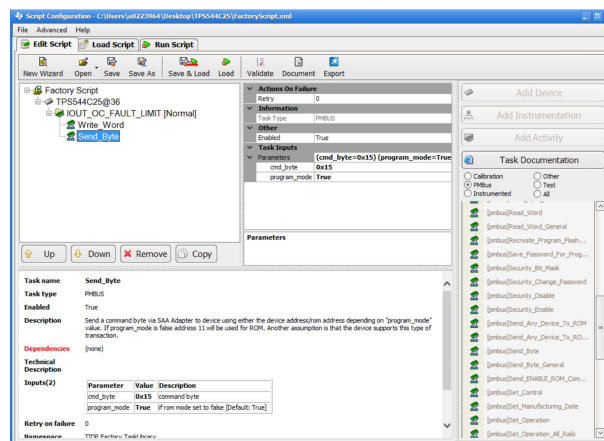

Figure 33. Adding A Task to Store All Data to NVM
- To add a task to store all data to a non-volatile User Store memory, click Send Byte and write cmd\_byte=0x15 (shown in Figure 33).